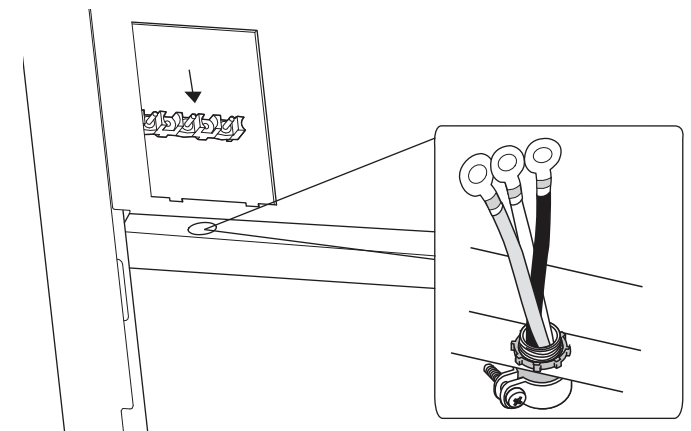

Figure 11: Strain Relief Location
- Mount strain relief (not provided with range) into the 1" (25.4 mm) diameter hole in the back panel located below the terminal block (see *Figure 11*). Route wires up through strain relief.